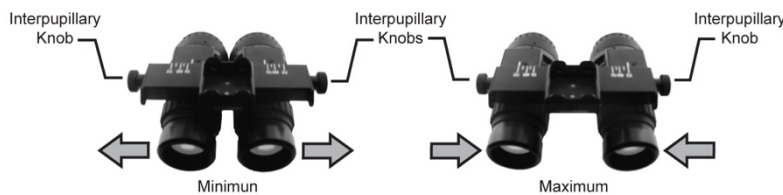

Figure 2-10 Interpupillary Adjustment Knobs
6. If your eye-span distance has been measured prior to mounting the binocular, turn the interpupillary knob(s) (see Figure 2-10) to set this value on the scale. If not, move the binoculars closer together or further apart to adjust the eye-span distance for the proper spacing between your eyes. When properly adjusted, the edges of the images in both monoculars will be clear and the resultant binocular view will appear as a single circle or as two circles, overlapped and slightly displaced laterally.